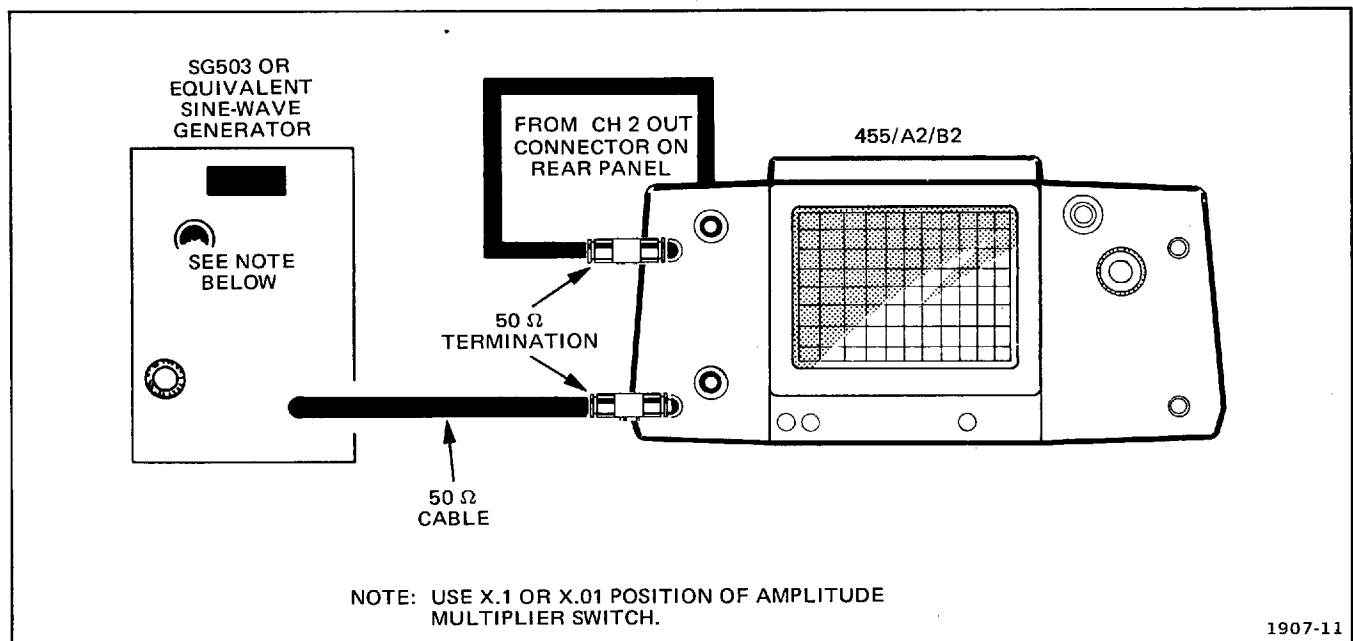

Fig. 3-3. Sine-wave generator test setup #1.
b. Connect sine-wave generator as shown in Fig. 3-3.